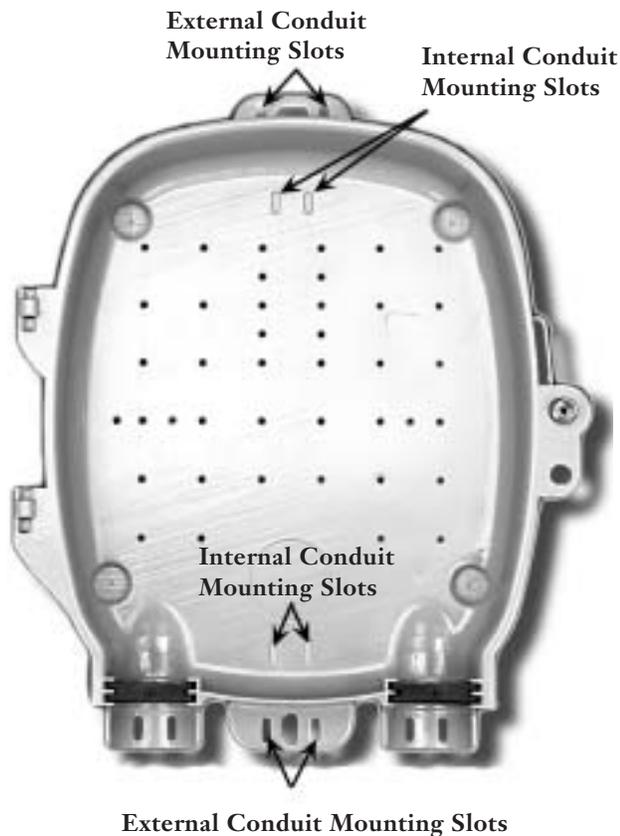

Figure 4
4.3 Conduit Mounting. The unit may be conduit mounted by using the internal or external slots provided (Figure 4). Note that the rear exit option is not available when mounting to conduit.